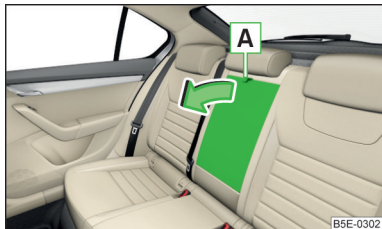

Fig. 77
- Pull on the loop **A** » Fig. 77 and fold down the armrest forward in the direction of the arrow.
- Fold the rear armrest down (not as far as the stop) » Fig. 77 on page 86.